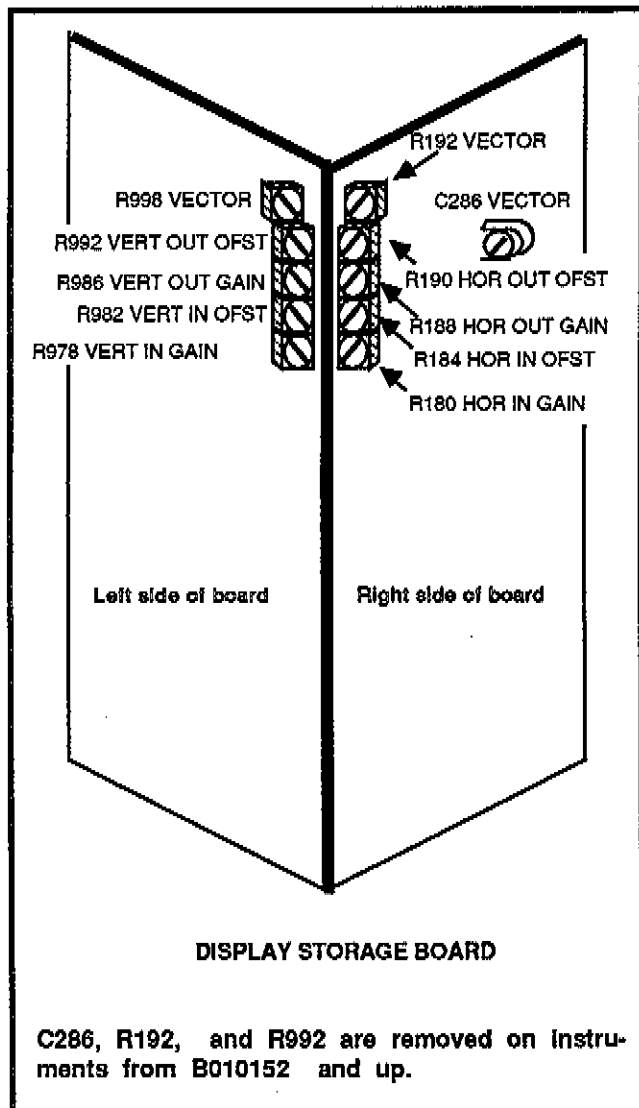

Figure 4-2. Display Storage board adjustment locations.
- b. Adjust R190 [Hoo (Horizontal Output Offset)] on the Display Storage board to position the center of the checkerboard pattern at center screen. See Figure 4-2.
f. Press UTIL MENU six times to exit. Enable the readout by pressing DSPL MENU/#6 (READOUT (ON)), and set sweep speed to 100 μ s by pressing SWP/TRIG MENU/#6 [SWEEP RATE (100 μ s/DIV)].
See Figure 4-2 for the location of adjustments on the Display Storage board.